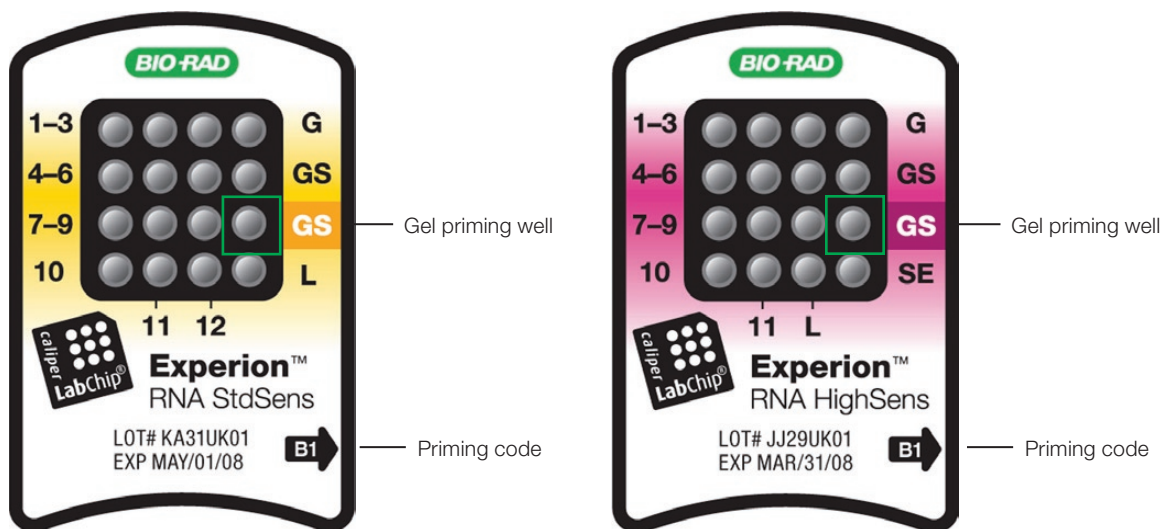

Fig. 3.1. Experion RNA chips. The locations of the gel priming well (GS, highlighted) and alphanumeric priming codes are indicated.
1. Pipet 9  $\mu$ l GS into the highlighted well labeled **GS** (gel priming well, Figure 3.1).
2. On the priming station, set the pressure setting to **B** and the time setting to **1**, as specified by the alphanumeric code on the chip (Figure 3.1).